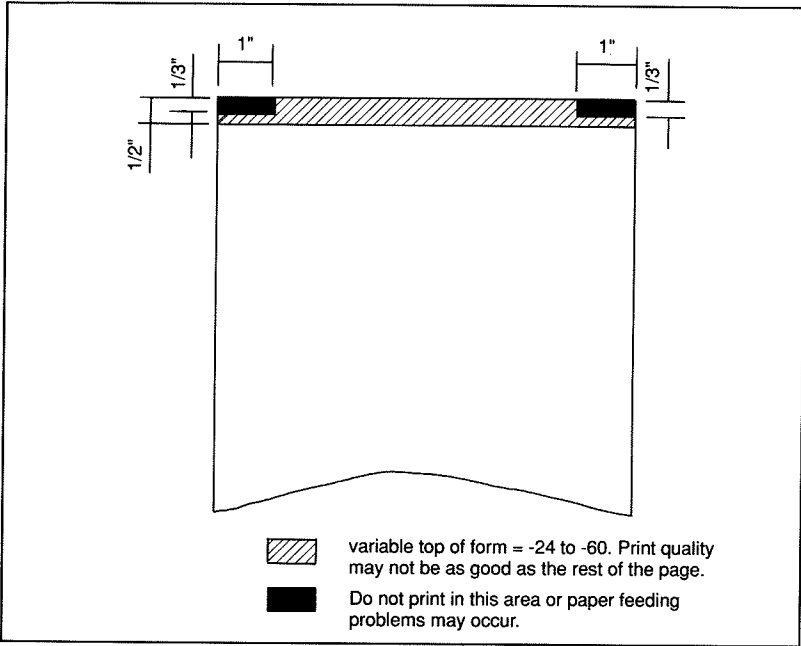

Figure 3-14. Extending the variable top of form setting.
- Do not print in the first or last 1 inch (10 characters at 10 cpi) of the first two lines of the page as shown in Figure 3-14.